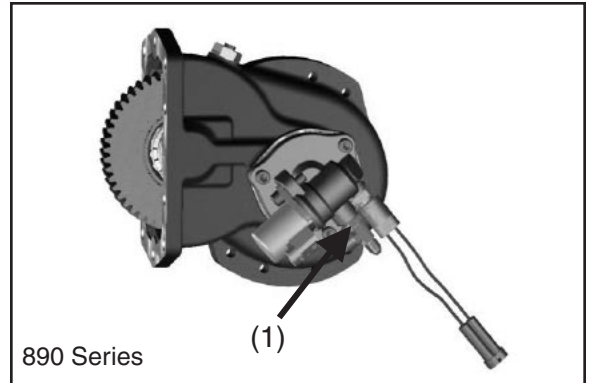
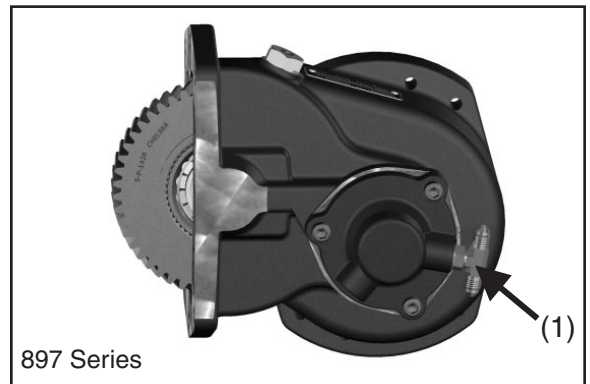

Fig. 11
Fig. 11a
11. Securely attach the high pressure line to the P.T.O. valve "T" fitting (1), torque to 11-12 Lbs. ft. [15-16 N.m.] (**Fig. 11**) (**Fig. 11a**).